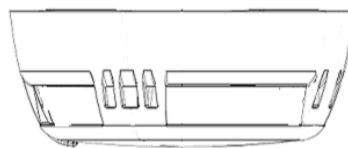

Figure 3
4. Continue to rotate a few degrees until the ONEDETECTOR1_AP has fully engaged in the ONEBASE_AP. (fig3) Figure 3